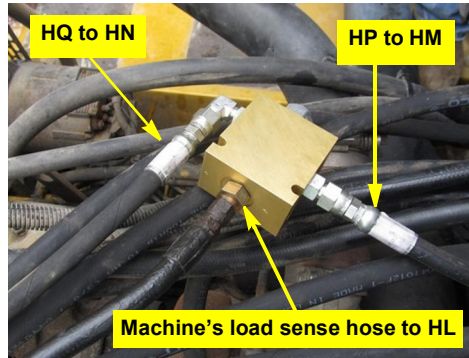

Figure 7b: Load sense valve installation and connections. Secure valve with tie strap (not shown)
- b. Install the load sense valve **HK** connecting (Figure 7b):